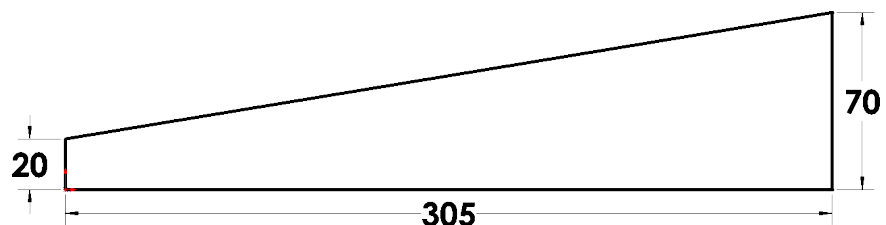

Fig. 4
Step 5. Add dimensions, **Fig. 4**.
To Smart dimension click the line then move the cursor out away from the line and click. Key-in the dimension and press ENTER. Arrange the dimensions as shown in **Fig. 4**.